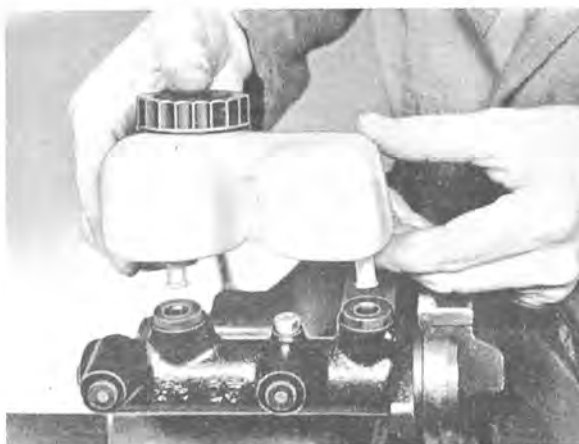

Fig. 5-45. Removing container
1. Fix the flange of the master cylinder firmly in a vice, see Fig. 5-45.
- Fit the rubber seals (3 and 5, Fig. 5-46). Fit the brake fluid container, see Fig. 5-45. Fill the container with brake fluid and vent the cylinder. Place plastic plugs in the cylinder. Check to make sure that the vent-hole in the cap (1) is open and fit the strainer (2) and cap in position.